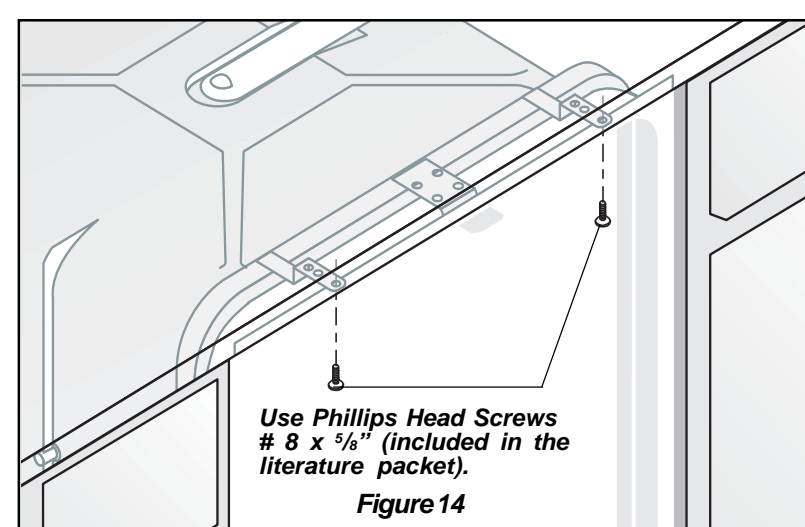

Figure 14
3. Adjust levelers (see Step 5) so mounting brackets touch underside of countertop. **IMPORTANT: Dishwasher must rest on floor—do not hang from countertop.** See Figure 14.